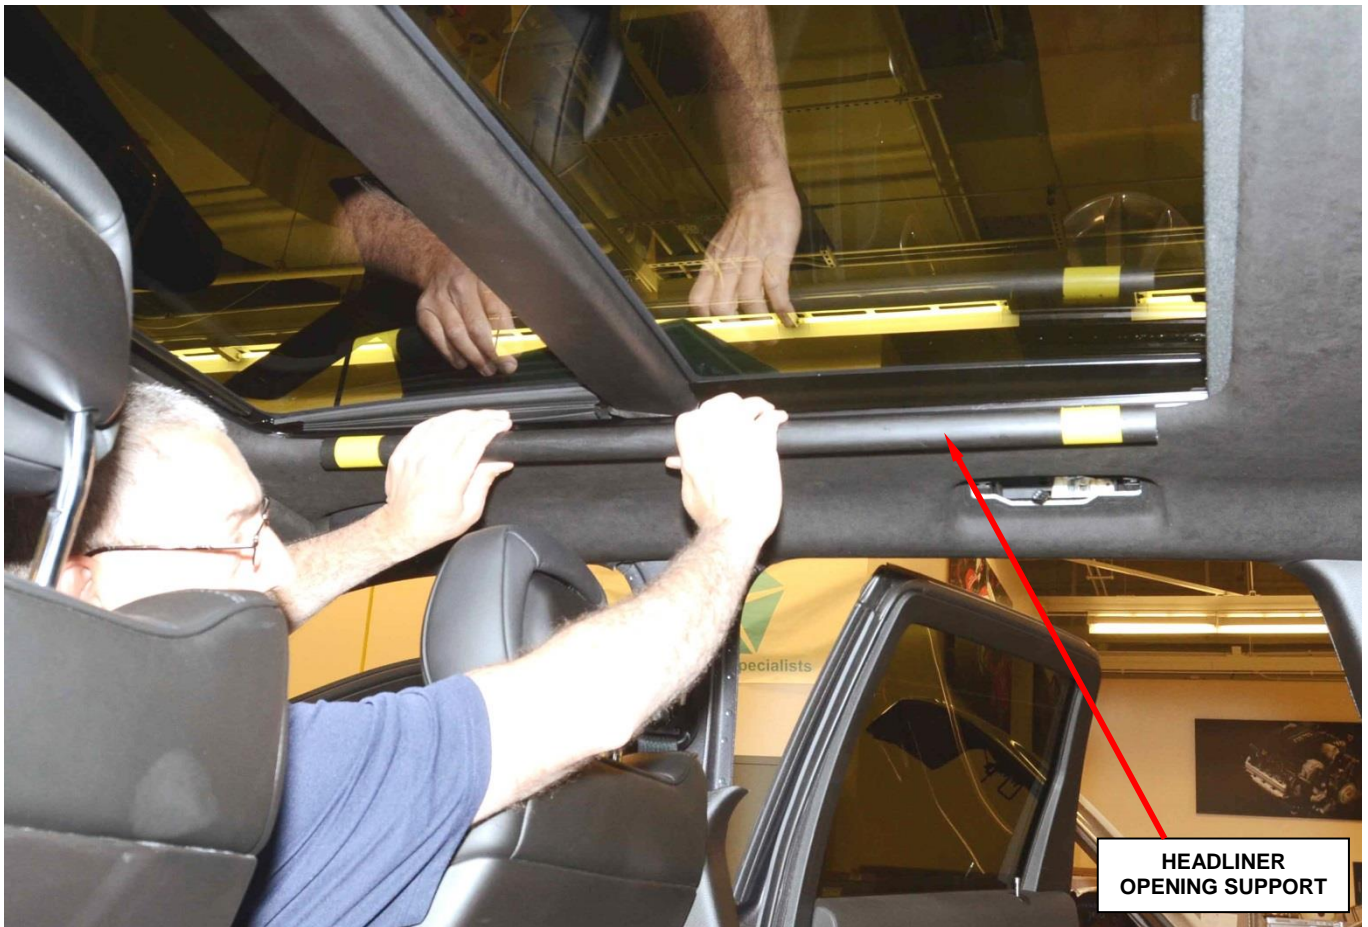

Figure 7 – Headliner Stiffener Tubes (Dual Pane Sunroof Only)
18. **For vehicles equipped with a dual pane sunroof**, install right and left side headliner opening supports (Special Tool 2021400230) (Figure 7).